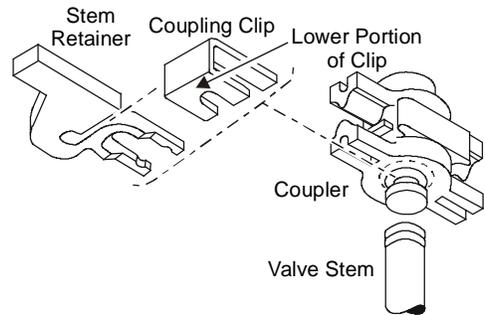

Figure 6: VA-8020-605 Stem Retainer and Clip Kit
6. Place the stem retainer and coupling clip over the valve stem, so the lower (shorter) portion of the coupling clip is positioned in the locking groove on the valve stem as shown in Figure 6.
To remove the coupling clip, use pliers to grip the stem retainer and pull outward. (See Figure 6.)